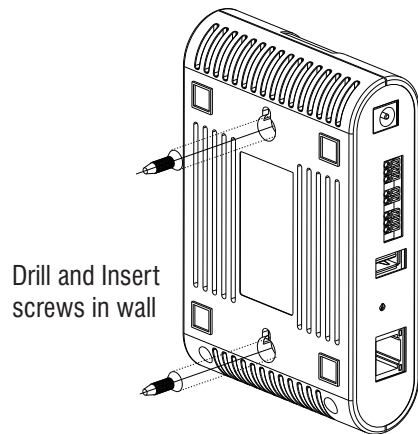

Figure 1
- Drill two holes in the wall using the mounting template provided at page no.13. Insert the screws along with screw grip and mount the Panel lite V2 matching the screws as shown in Figure1.